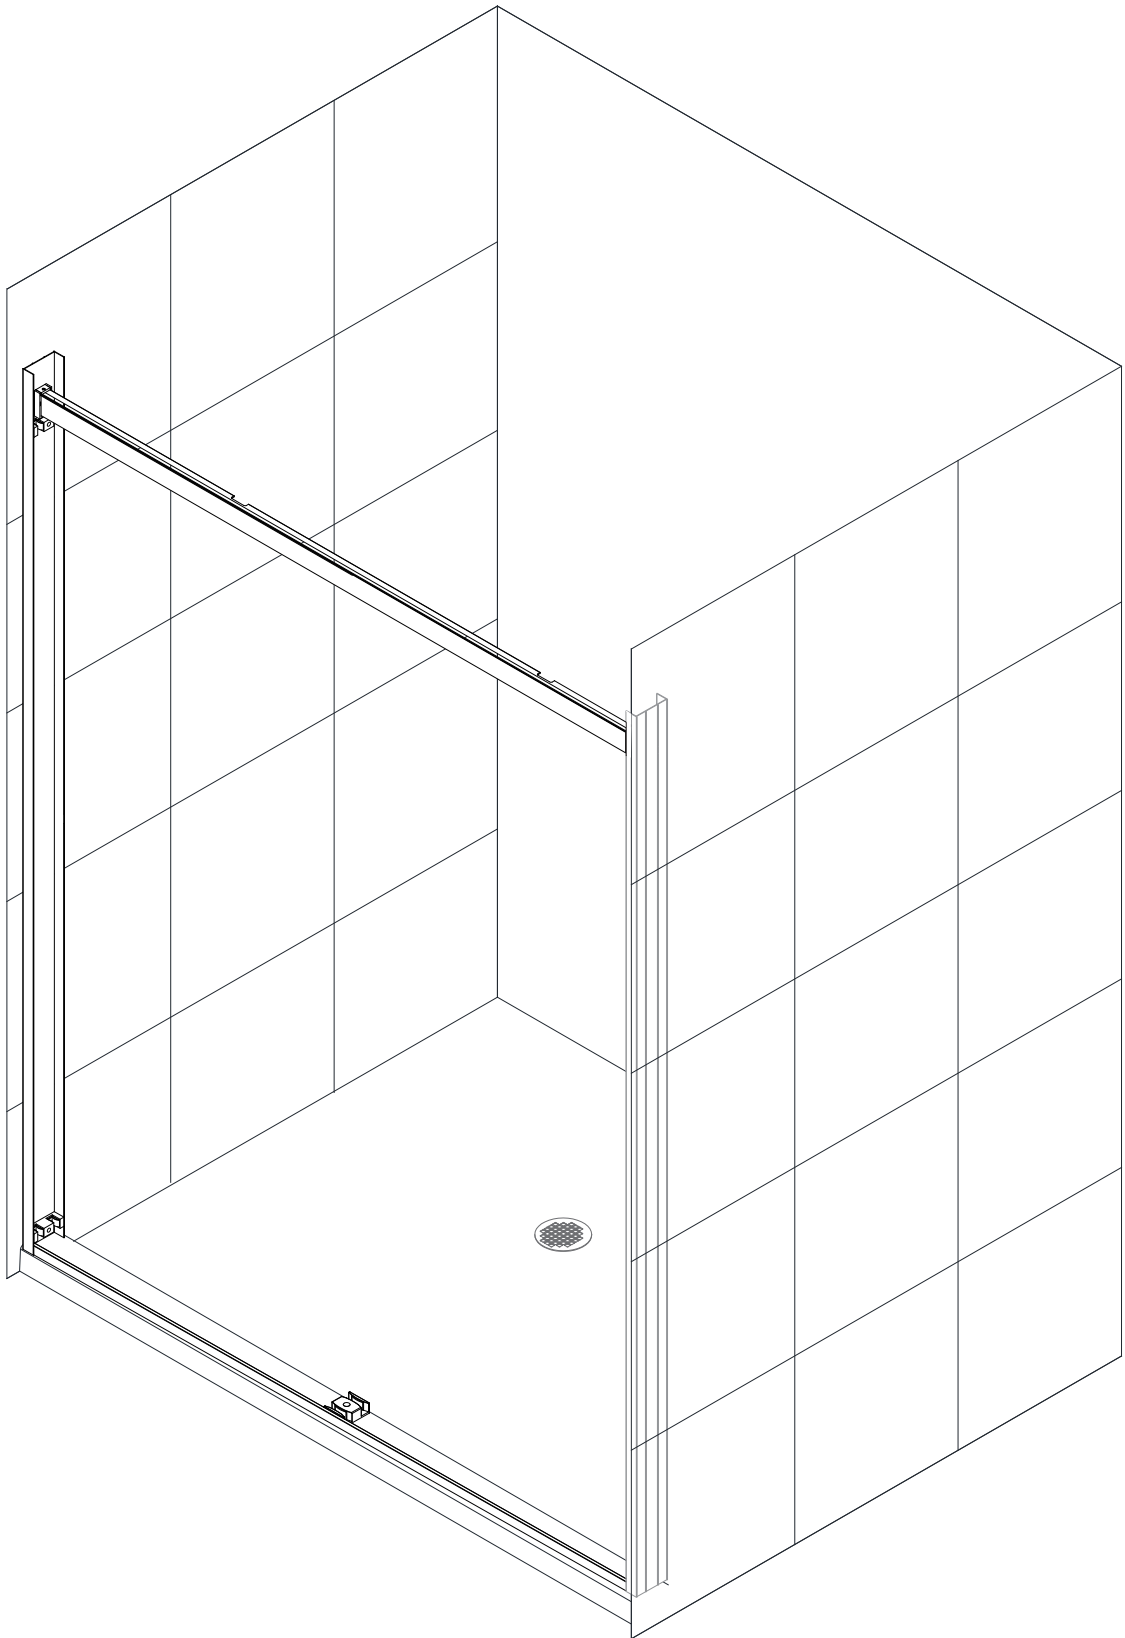

Fig 19
19. Next, prepare the doors for installation. **(Fig 19)**